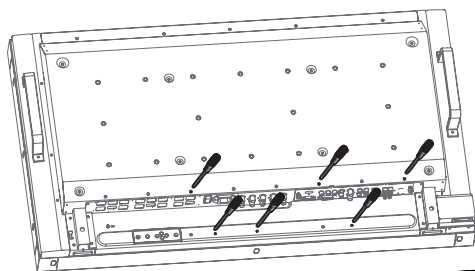

Figure 4
- Remove the six screws (Figure 4).